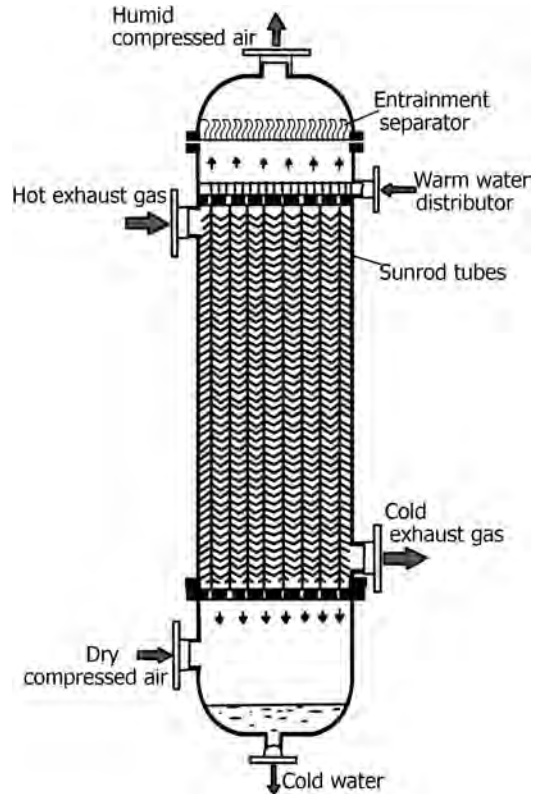

FIGURE 18.17 Tubular humidifier.
- *Use of Tubular Humidifiers:* Tubular humidifier is essentially a heat exchanger, with hot waste gases flowing on the shell side and gas to be humidified flows countercurrent to a falling film of water, just like in a wetted wall column. The water film is evaporated into the gas mainly due to heat transfer from the hot waste gases flowing on the shell side. Tubular humidifiers have a compact design and are considered to operate efficiently (Figure 18.17).